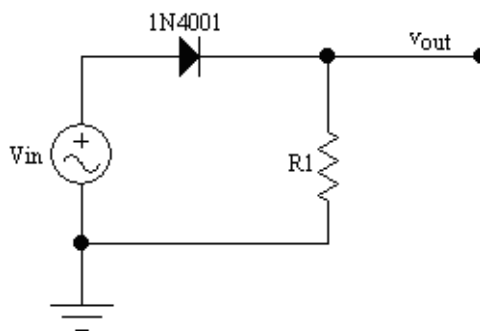

Figure 7.1: Half-Wave Rectifier
1. Calculate  $v_{OUT}$  for Figure 7.1, with  $V_{IN}$ = 10 Vpp sine-wave with a frequency of 60 Hz,  $R_1$ = 10 k $\Omega$ ,  $D_1$ = 1N4001. Show all computer simulation.
1. Construct the circuit of Figure 7.1. Measure  $V_{IN}$ ,  $v_{OUT}$  using the oscilloscope.